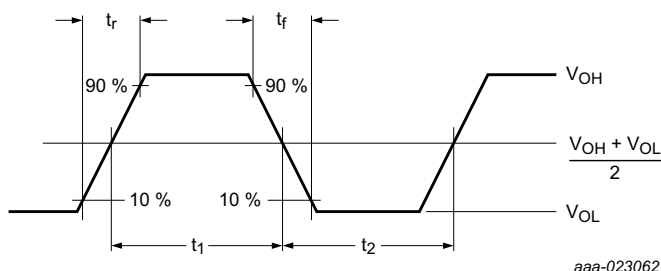

Fig 12. Definition of output and input transition times
- Transition time and duty factor definitions are shown in Figure 12; $\delta = \frac{t_1}{t_1 + t_2}$